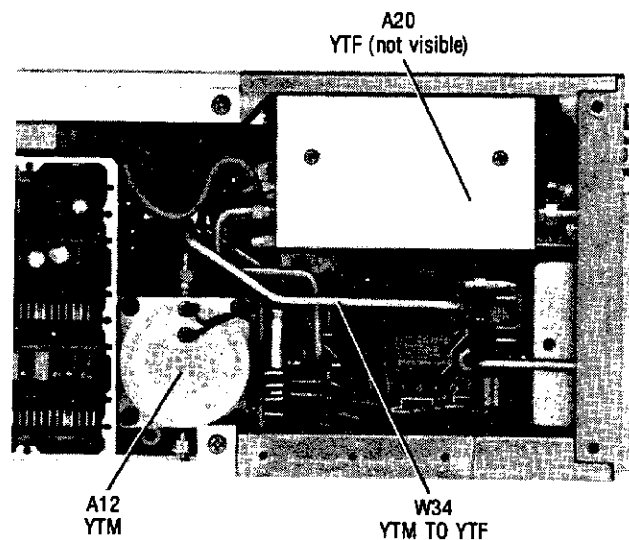

Figure 5-24. YTM/YTF Component Location Diagram
3. Disconnect W34 from the YTM (refer to Figure 5-24). Connect the service extension cable 83525-20013 to the YTM. Connect the HP 11664B detector to the cable through an adapter.